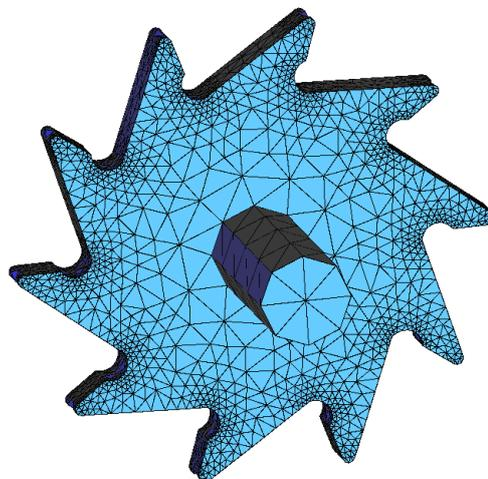

Figure 36. Mesh with assignment of sizes around the points on the wheel profile
- 6 . A third window shows the meshing process. Once it has finished, click **OK** to visualize the resulting mesh (Figure 36).